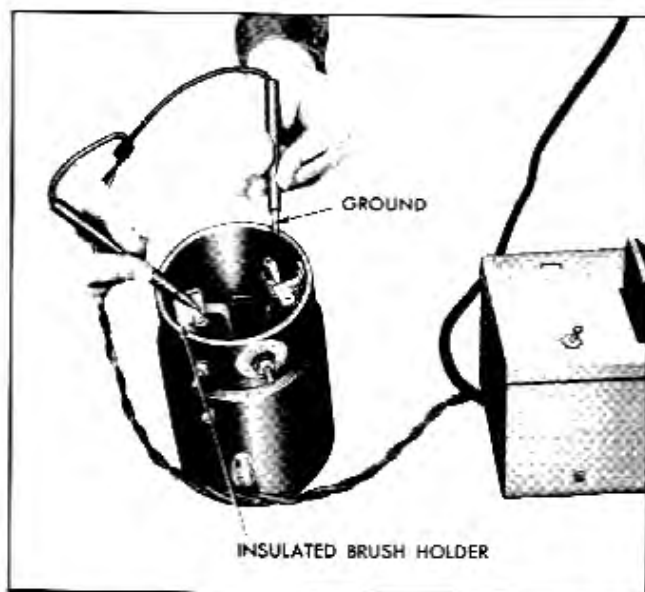

Fig. 12-26 Testing Positive Brush Holder for Ground
g. Using a 110-volt test lamp, place one lead on the positive or insulated brush holder and the other lead on ground. If lamp lights the brush holder is grounded due to defective insulation at the frame (Fig. 12-26).